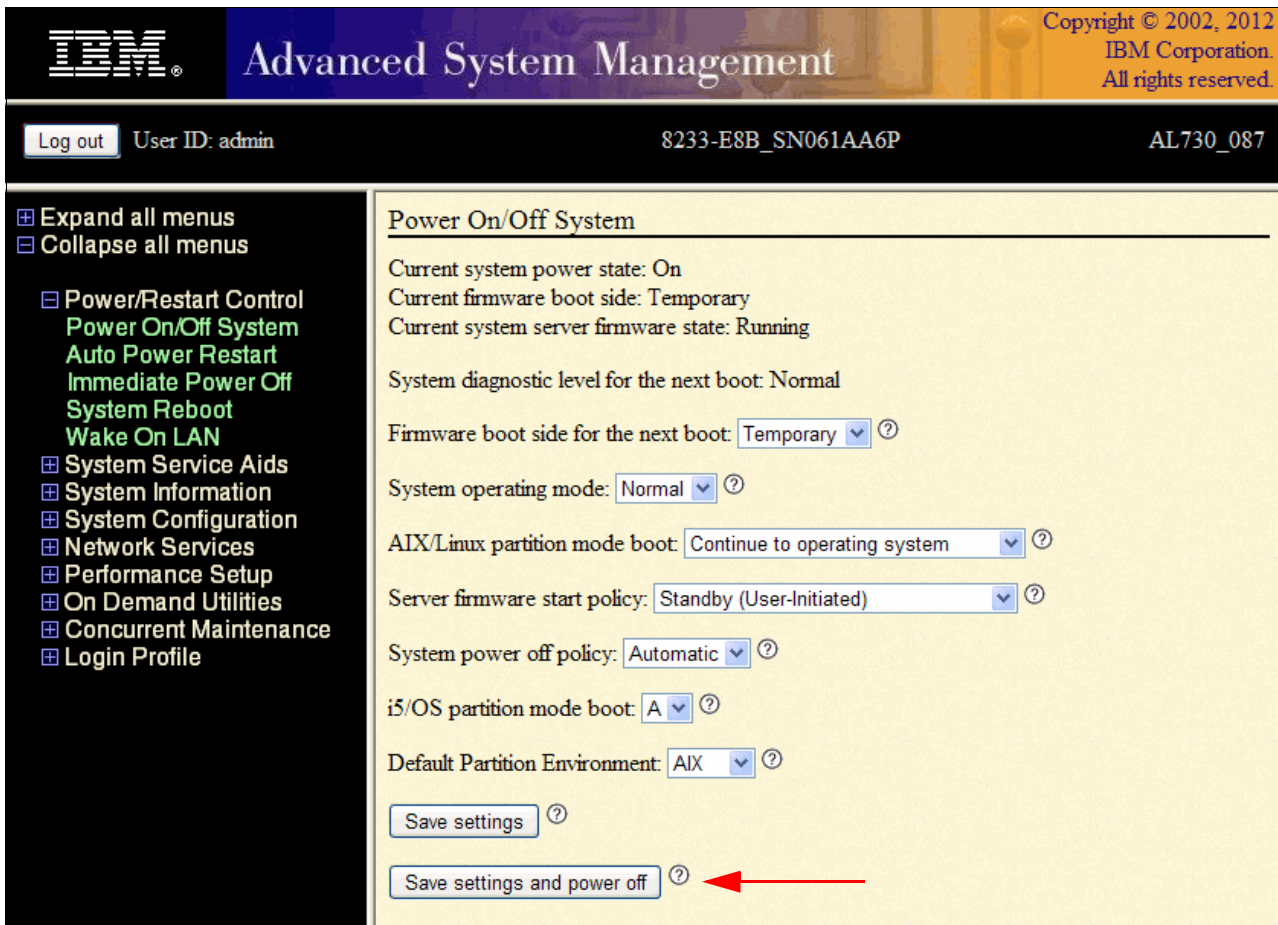

Figure 2-5 ASMI menu for Power On/Off System
2. Set the system in the standby state. Expand the **Power/Restart Control** menu and click **Power On/Off System**. Figure 2-5 shows the corresponding ASMI menu. In the boot to system server firmware field, select **Standby** and click **Save settings and power off**.